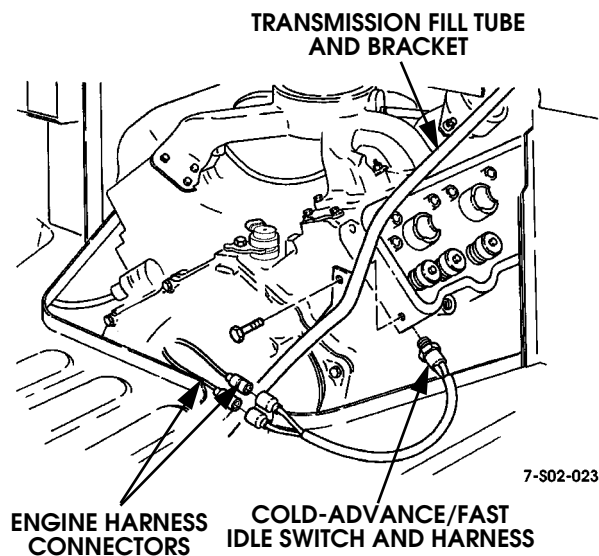

Figure 2-53: Cold Advance/Fast Idle Switch and Harness
10. Disconnect or remove (Figure 2-53):